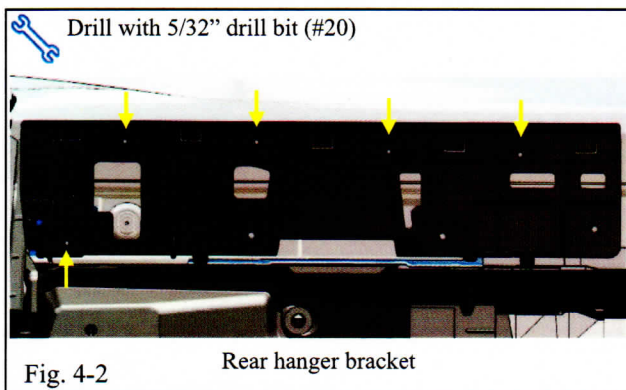

Fig. 4-2
- ! (c) Hold the rear hanger bracket and carefully use the drill with a 5/32" drill bit to drill the 5 marked locations on the hanger bracket (Fig. 4-2).